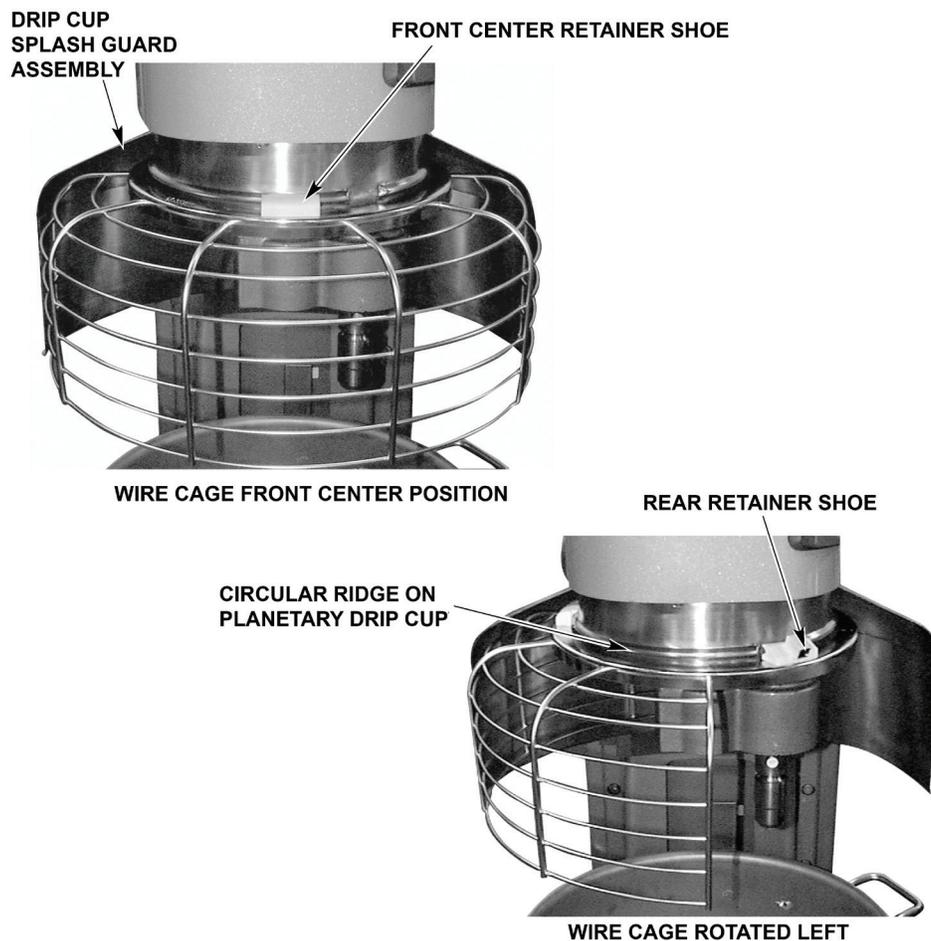

Fig. 13
6. Return the wire cage to the front-center position (Fig. 13).
WIRE CAGE (Fig. 13)